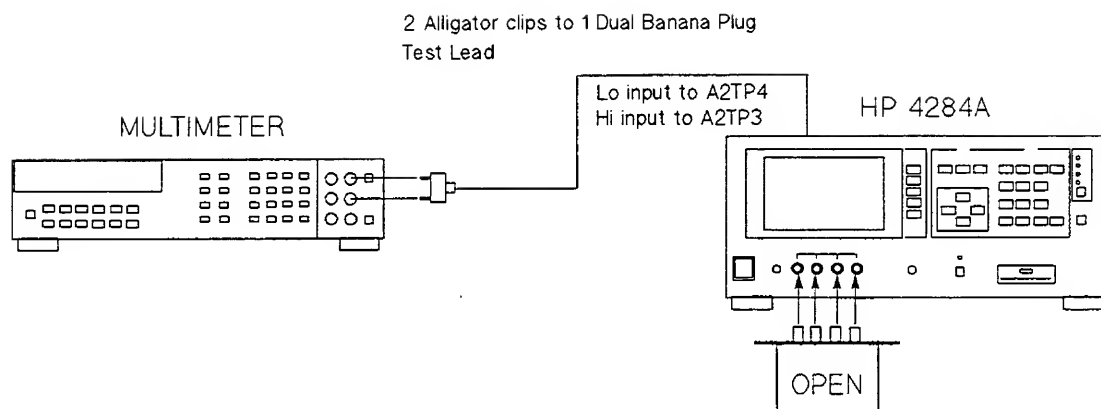
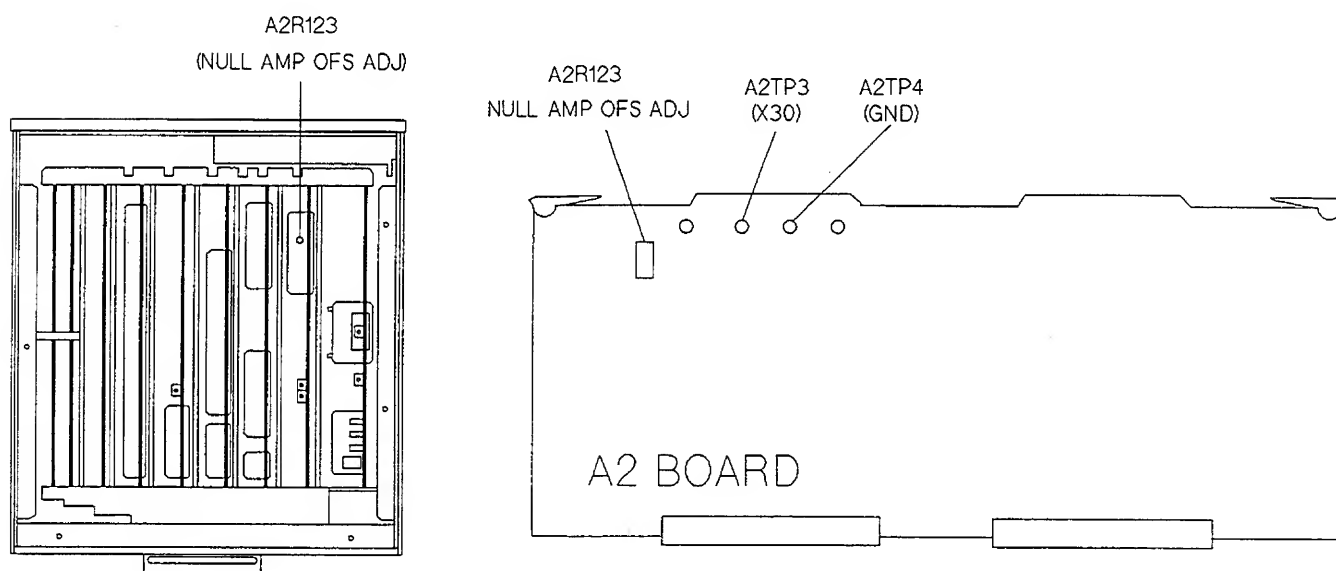

Figure 2-14. Null Amplifier DC Offset Adjustment Setup
Figure 2-15. Null Amplifier DC Offset Adjustment Location
3. Perform the null amplifier DC offset adjustment according to the program's instruction. Figure 2-14 shows the adjustment setup, Figure 2-15 shows the A2TP3 (**X30**), A2TP4 (**GND**) and A2R123 (**NULL AMP VOS ADJ**) locations.